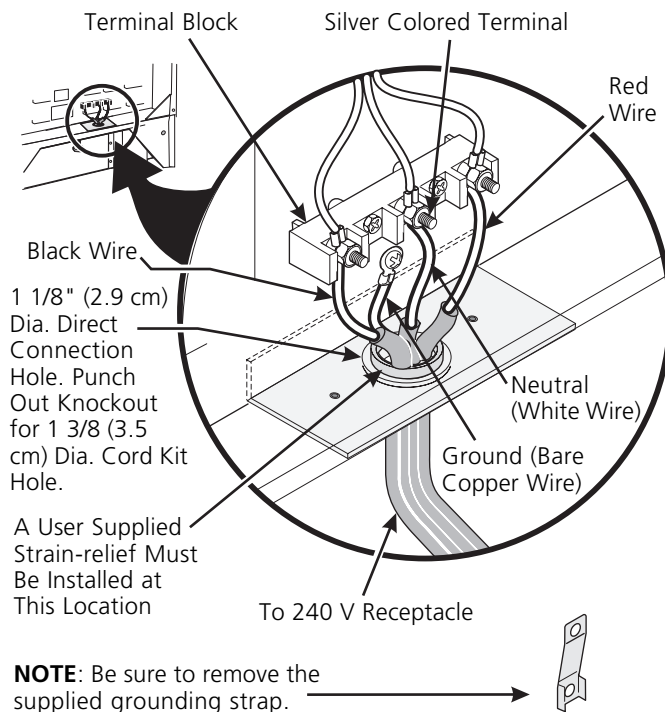

Figure 5
For mobile homes, new installations, recreational vehicles, or areas where local codes do not permit grounding through neutral, a 4 conductor power supply cord kit rated at 125/250 volts minimum, 40 amperes and marked for use with ranges should be used (see Figure 5).
4. Connect the ground wire (green) of the copper power supply cord to the frame of the appliance with the ground screw, using the hole in the frame where the ground strap was removed (see Figure 5).
6. Replace the 3 nuts on the terminal block (see Figure 5).
If the appliance is connected directly to the circuit breaker, fuse box or junction box, use flexible, armored or nonmetallic sheathed copper cable (with grounding wire). Supply a U.L. listed strain-relief at each end of the cable. At the appliance end, the cable goes through the Direct Connection Hole (see Figure 5) on the Cord Mounting Plate. Wire sizes (**copper wire only**) and connections must conform to the rating of the appliance.